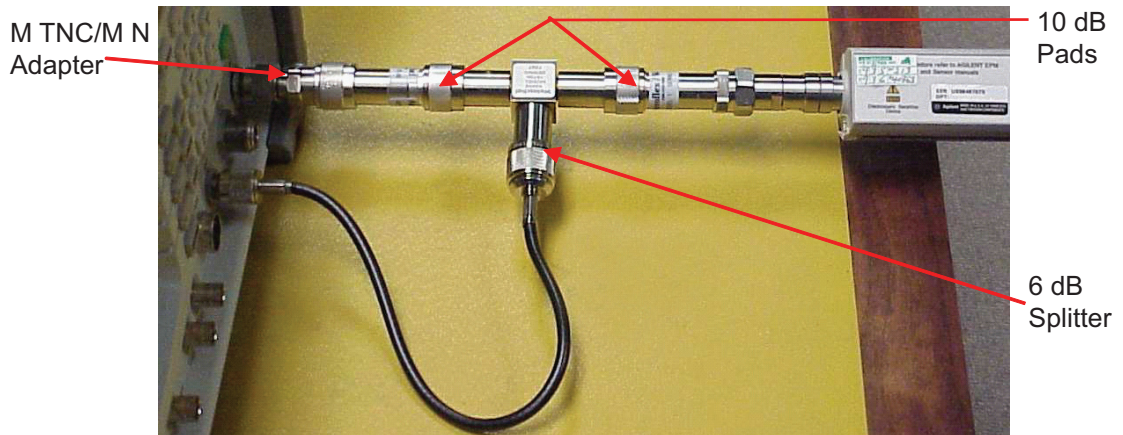

Fig. 4-26 ANT Port Linearity Calibration Setup
3.	Configure equipment. Refer to Fig. 4-26 as needed.